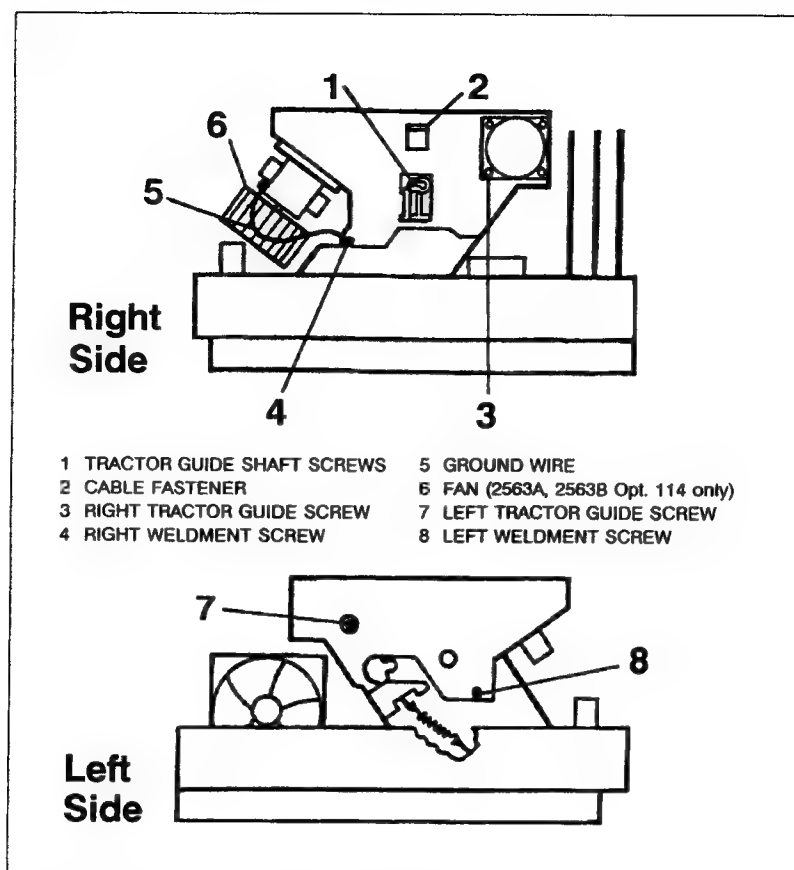

Figure 6-5. Printer Weldment / Side Views
- c. Remove the two pozidrive screws, one at each end of the printer weldment (see Figure 6-5, item 3 & 4).
- d. Remove the hammer driver ribbon cable stress relief holder from the right side of the printer (see Figure 6-5, item 2).
- e. From the left of the printer, remove the one 3 mm hex head (or pozidrive) screw securing the tractor guide shaft to the side of the weldment (see Figure 6-5, item 7).